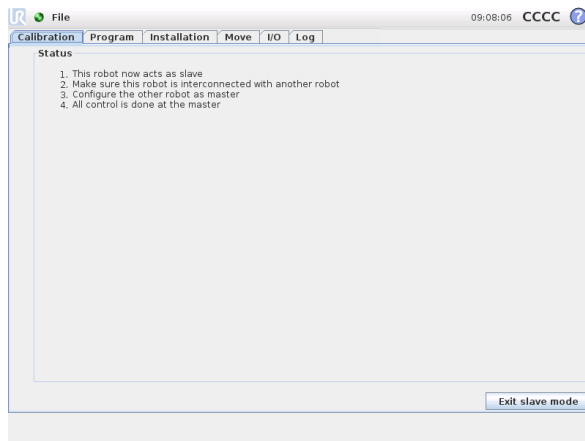
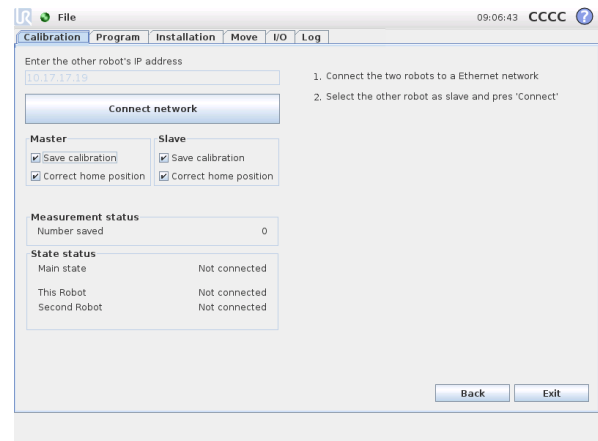

Figure 2.10: Slave mode
Figure 2.11: Master mode
- (8) When the slave (Robot 2) is ready and has entered the screen in Figure 2.10, press *Connect network* on the master to establish the network connection, see Figure 2.11. The screens that follow are described in Section 2.7.